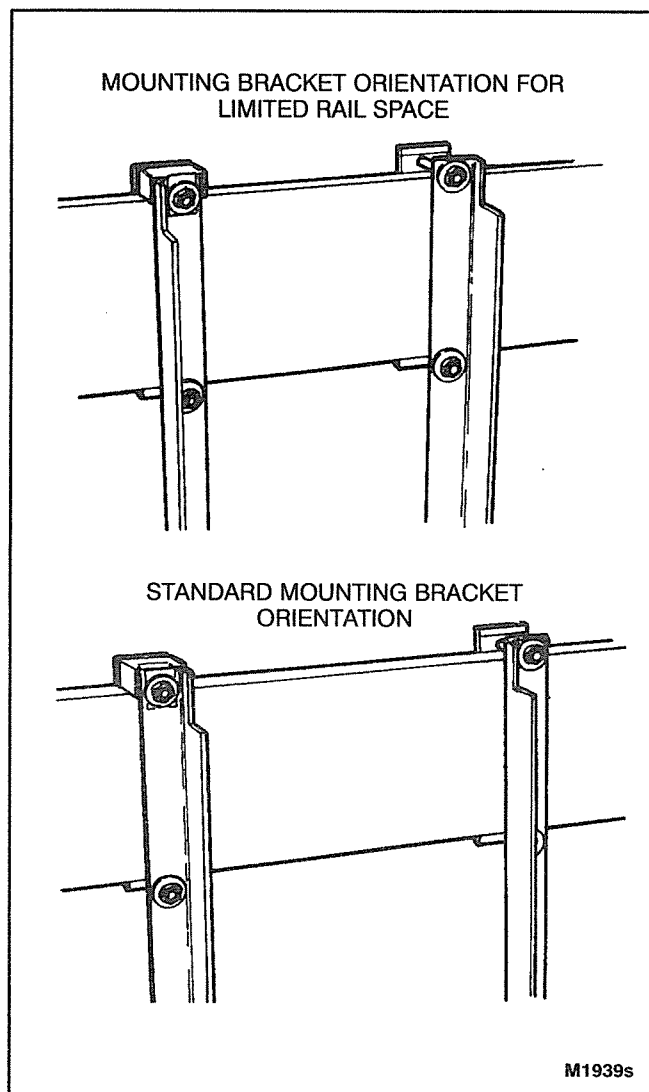

FIGURE 4-3. ANGLE BRACKET MOUNTING
The angle brackets can be installed in two ways. They can be mounted to the power unit with the mounting flanges to the sides of the power unit or behind the power unit (see Figure 4-3). Mounting the angle brackets with the mounting flanges to the side of the power unit provides easier access to the lower mounting clamp, but more rail space is required.
2. Assemble the spacer and then the angle bracket to the side panels. (Face angle bracket mounting flanges to the side or behind the power unit as required [Figure 4-3].) Tighten angle bracket mounting bolts to 32 ft lbs (43 N•m).